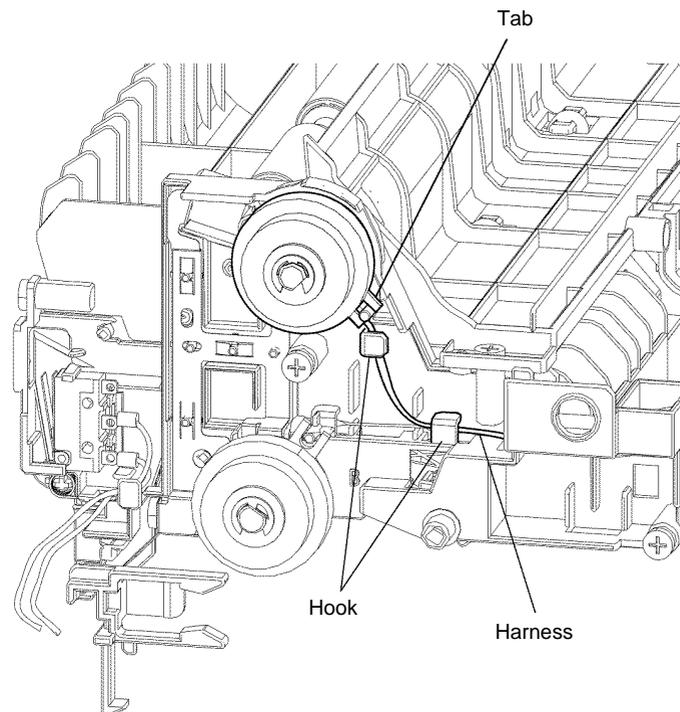

Figure 5 Registration clutch installation
2. When installing the registration clutch, fit the tab with the stopper of the registration transport assembly, then route the harness of the registration clutch into the hooks, Figure 5.